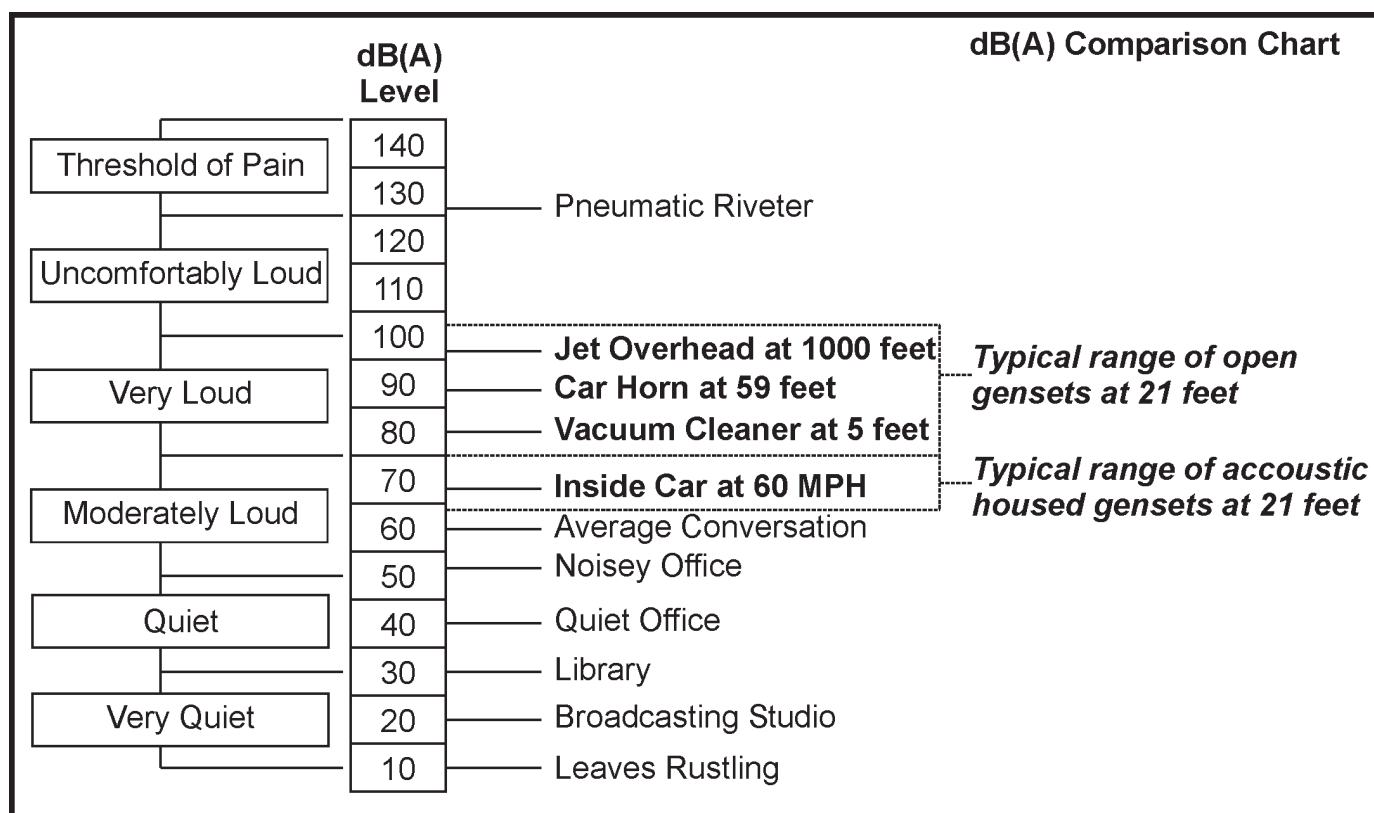

Figure 2. dB(A) Comparison Chart
Noise regulations are written in terms of "decibels 'A' scale" or dB(A). This term means the sound pressure level has been adjusted to duplicate how the imperfect human ear hears noise. The human ear can only hear within a range of frequencies. The dB(A) weighted scale tries to simulate human loudness perception. Loudness is dependent on sound pressure level (amplitude) and frequency. See Figure 2 on page 28 for a dB(A) comparison.
Figure 2 below provides a comparison of dB(A) levels for daily noises and the typical range of generator sets. Open generator sets are unboxed units where the path of noise is unobstructed. An acoustic housing encloses the genset to impede and absorb the path of noise.